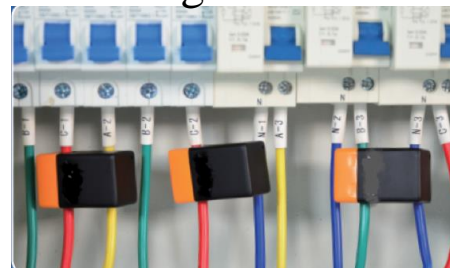

Figure 5
- Prototype using induced current (Figure 5)